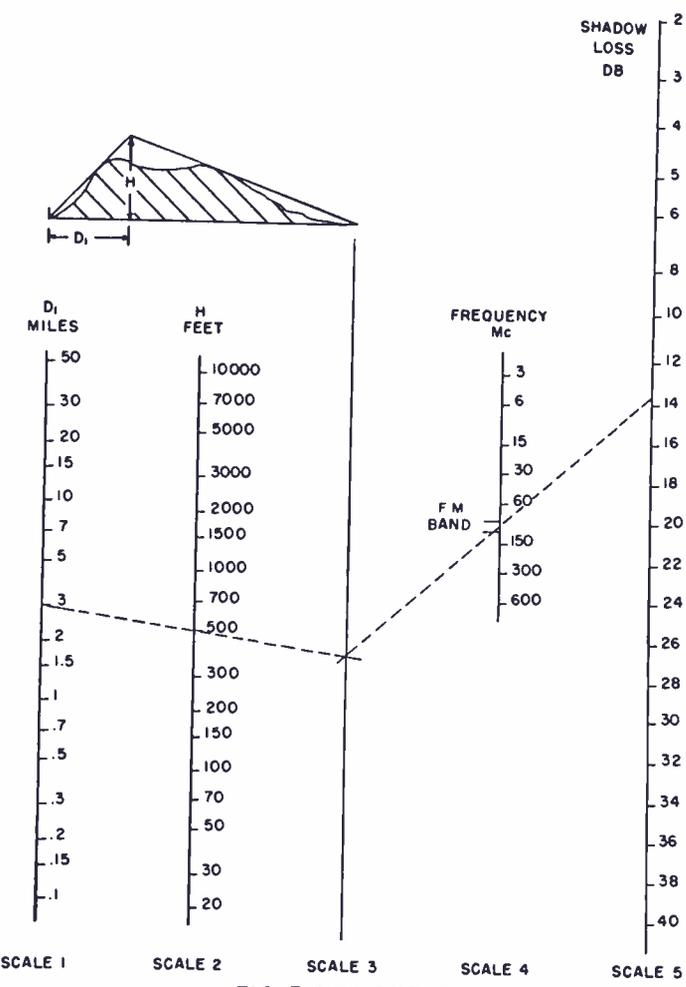
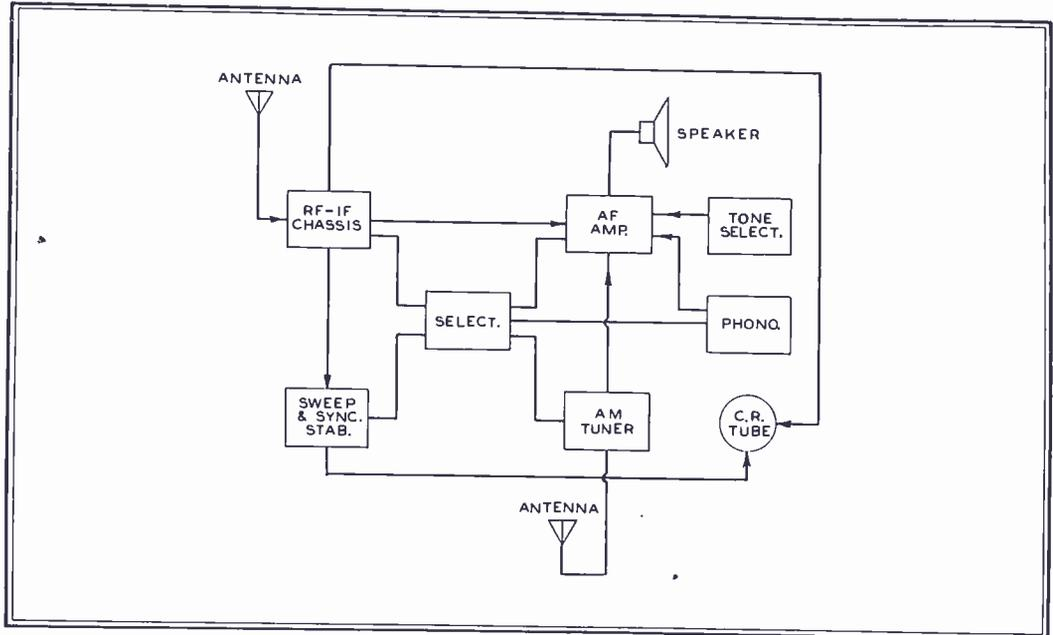
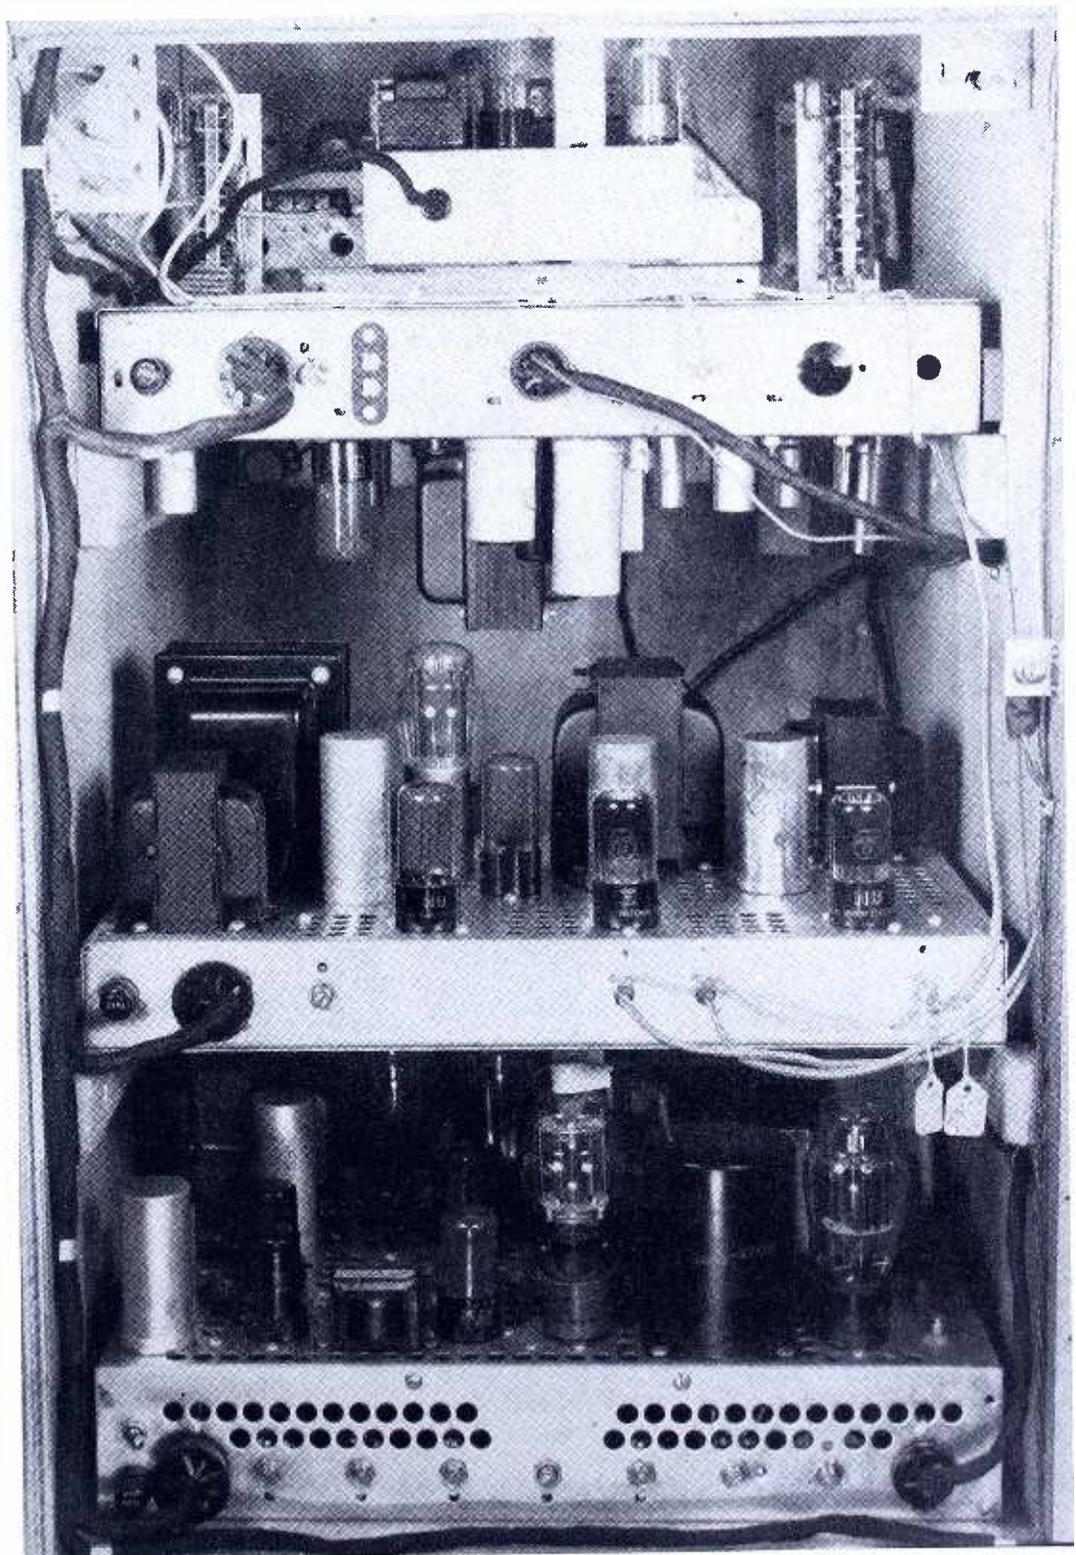

FIG. 7. NOMOGRAPH FOR SHADOW LOSS AT FREQUENCIES OF 3 TO 600 MC.
FIG. 4. BLOCK DIAGRAM OF THE ELEMENTS WHICH COMPRISE THE COMPLETE RECEIVER WITH THE 13 TELEVISION BANDS, FM AND AM BROADCASTING, AND A RECORD PLAYER
FIG. 6. TOP: AM TUNER ABOVE AND RF-IF CHASSIS BELOW. CENTER: AUDIO CHASSIS. BELOW: SWEEP AND SYNC CHASSIS. ALL CABLE CONNECTIONS GO TO PLUGS
**Effect of Terrain** ★ In the frequency band under consideration, the dependence of signal intensity at any distance on the height above ground of the transmitting antenna has been shown in Part 1, Figs. 4 and 5. In a like manner, the signal intensity at the receiving point is related to the height of the receiving antenna above ground. For horizontally polarized radio waves in the FM band and higher frequencies, the signal intensity increases linearly with the height above ground. A receiving antenna 10 ft. above the earth will intercept a field intensity of only one-third that of a 30-ft. antenna. A receiving antenna 60 ft. above ground will intercept a field intensity twice that of one at a height of 30 ft.
It has been common practice to present FM signal intensity versus distance characteristics upon the basis of an assumed receiving antenna height of 30 ft. The Federal Communications Commission's propagation charts entitled "Ground Wave Signal Range for FM Broadcasting" conform with this convention, as do Figs. 4 and 5 presented previously. Fig. 6 presents the receiving antenna height gain-correction factor numerically and in decibels referred to 30 ft.
**Determination of Shadow Loss** ★ An estimate of the probable shadow loss can be obtained from Fig. 7. This method is based on the theory of diffraction of plane waves
binning the transmitting and receiving antenna height gain-factors with shadow-loss estimates, it is believed possible to predict the probable signal intensity at a specified point with much greater accuracy than from propagation curves based upon an assumed smooth earth. Accordingly, Fig. 8, entitled "A Chart for Determination of Probable Signal Intensity Over Actual Terrain", has been prepared. This chart incorporates the receiving antenna height gain factor referred to previously and presented in Fig. 6, the shadow loss discussed above and evaluated by means of Fig. 7, together with the theoretical smooth earth propagation curves. This chart provides a convenient means of determining the probable signal intensity at a specified receiver location over actual terrain.
Attention is called to the fact that the solutions derived from Fig. 8 yield the signal intensity in microvolts per meter at a height of 30 ft. above ground. The signal intensities for receiving antennas at other heights can be obtained by reference to the height gain-correction factor presented in Fig. 6.
**Chassis Units** ★ Although there is a difference in the physical location of the separate units, all models contain the same chassis and subassemblies. Fig. 3 shows their arrangement in the salon model, with a close-up view in Fig. 6, and a block diagram in Fig. 4. They are: